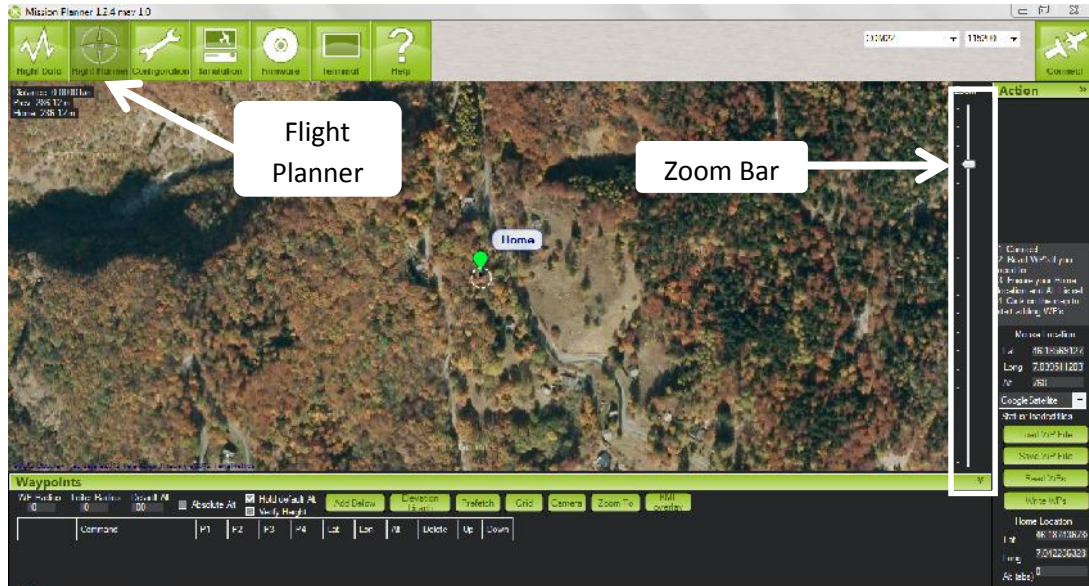

Figure 17 – Flight Planner tab of the Mission Planner
- Open the Mission Planner and click on the Flight Planner tab, see Figure 17.
- Navigate to the position of the mission by dragging the picture on the screen and zooming using the bar to the right, see Figure 17, or the scroll wheel of the mouse.